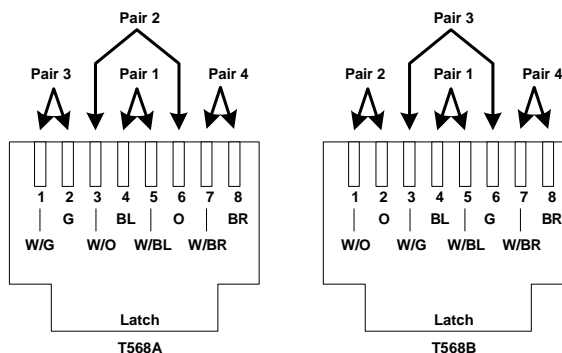
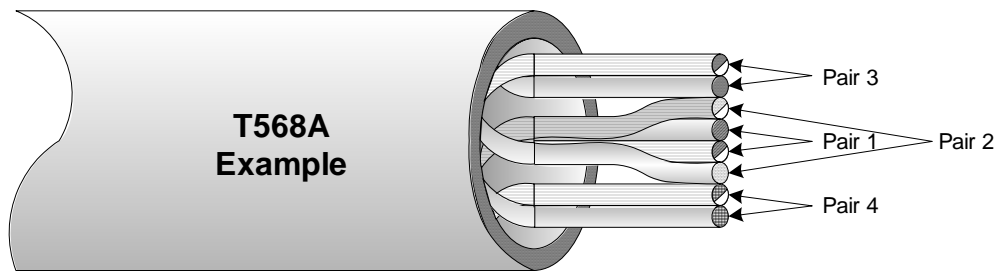

Figure 5.2 Pin/pair wiring.
Figure 5.3 Example of T568A cable preparation.
The performance of your system depends on the cable termination. Careful cable end preparation is essential for proper connector installation and signal integrity. Pay particular attention to the amount of untwisting of the conductor pairs. (See Figure 5.3.) Maintain twist as close as possible to the termination point. Cross over wire 6 as shown in Figure 5.2. Trim conductors as short as possible before installing them into the connector body. The length of the jacket must be long enough to fit inside the connector back end. The length of the conductors beyond the end of the jacket should not be longer than 12.7 mm (0.5 in.). Refer to the procedures described in the following sections.
2. Separate the individual wire pairs. Untwist only back to the jacket edge. (See Figure 5.3.) Use the T568A or T568B color code and pairing chart in Table 5.2 to identify correct placement of conductors into the connector.
3. Align the wires into color groups as shown in Figure 5.2.
6. Confirm the correct orientation of the conductors and insert the conductors into the connector body. Note that each wire has its own slot. Follow T 568A or T568B wiring convention as shown in Figure 5.3.